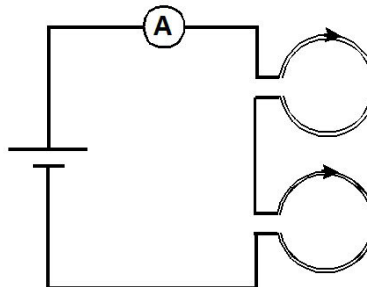

Figure 7: Helmholtz Wiring
2. Connect the second coil in series with the first coil. See Figure 7.